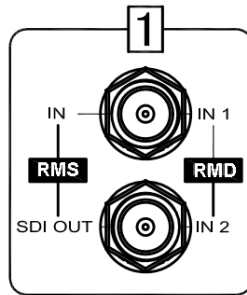

Figure 4.2-3 Video Input/Output Connector
- The icons are not exactly the same for RMS4342N and RMD4342N in Area 1, as shown in Figure 4.2-3, the connectors in the other three areas are as the same, and this difference is also applied for RMS7023N and RMD7023N.